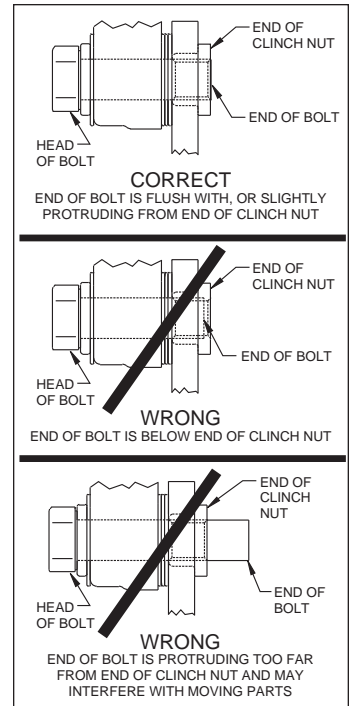

Figure 4. Clinch Nut Engagement Diagram
CAUTION: All mounting bolts must fully engage insert nuts, Figure 4. Be sure to check that all bolts are either flush or protruding through flanged side of insert nut after shimming. Rear hole refers to the part of the spindle that would be facing the back of the vehicle, front is facing the front of the vehicle.
- Adjust by adding or subtracting shims (2) between the bracket and the spindle. Always use the same amount of shims on each of the two mounting bolts.
- NOTE:** The end of each bolt must be flush with or slightly protruding from the head of the clinch nut, as shown in Figure 4. If necessary place spare shims (2) between washer (19) and caliper mounting ear to achieve the proper clinch nut engagement. Once the caliper alignment is correct, remove the ProSpindle and steering arm bolts one at a time, apply red *Loctite*® 271 to the threads, and torque to 55 ft-lb.